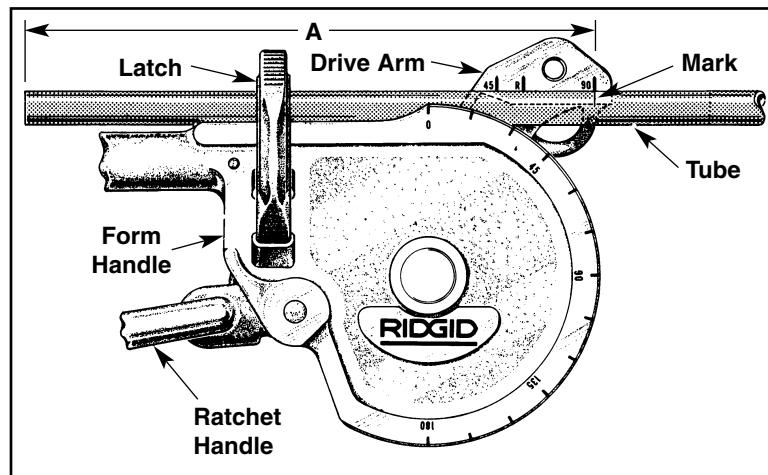
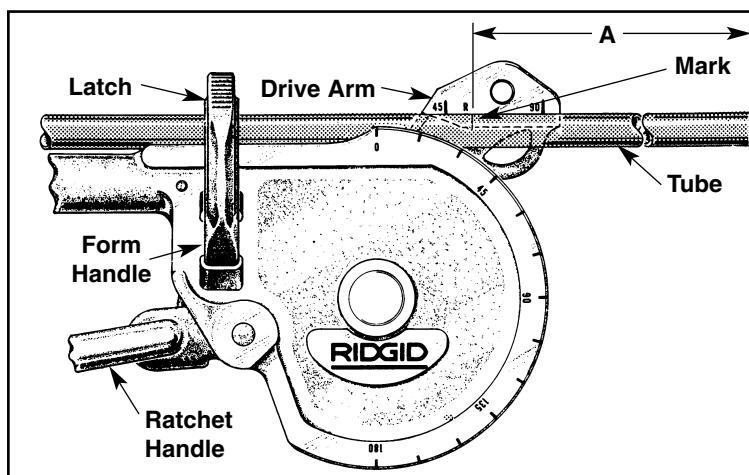

Figure 4a
Figure 4b
6. Position tube in bender. (*Figure 4a*) If the end from which you measured is in the Form Handle, the measured mark should be directly under the 90° mark on the Drive Arm. (*Figure 4a*) If, however, the end from which you measured is to the right (Not in the Form Handle), set the mark on the tube directly under the "R" on the Drive Arm. (*Figure 4b*)